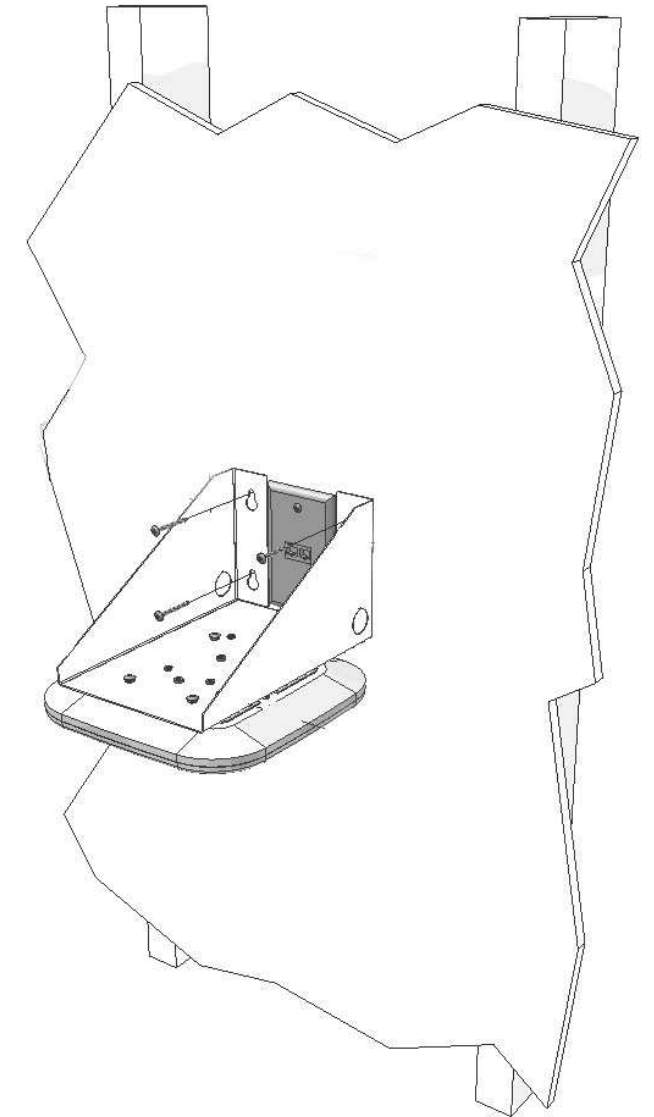

Figure 2
Step 4 – Place the mount on the wall where it is to be installed (it is recommended that you mount directly to a stud if possible) and mark the screw locations. Use a minimum of two (2) #10 x 2" or larger screws (not included) to secure the mount in place. However, if there is no stud at the mounting location, it is recommended that you use a minimum of 4 suitable anchors to secure the mount in place (Figure 2).